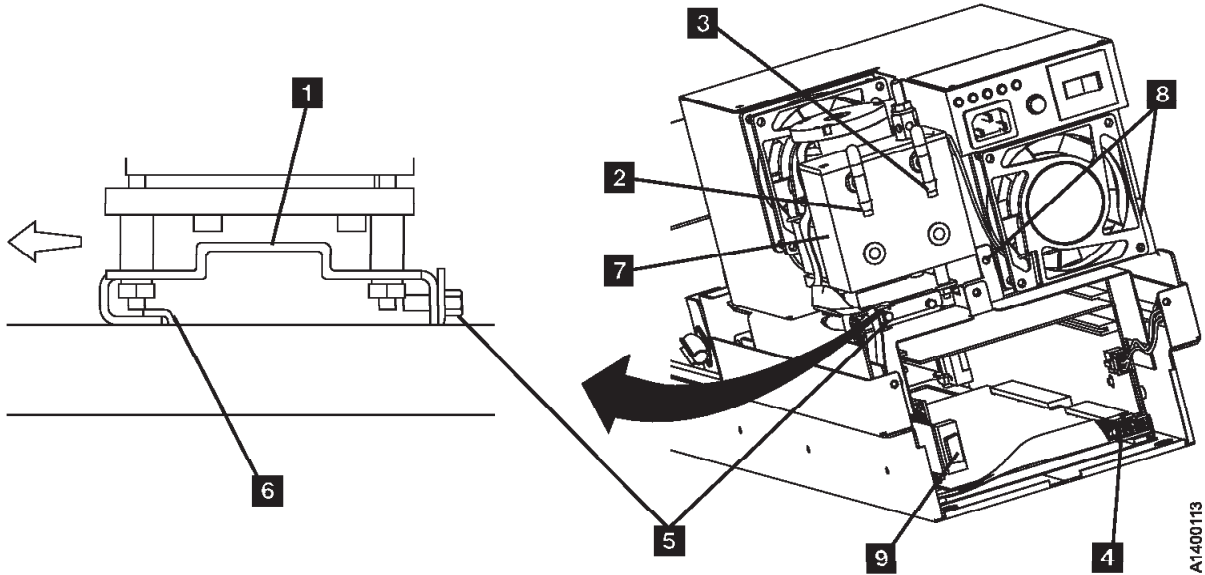

Figure 10-41. Pneumatic Assembly
4. See Figure 10-41 on page 10-58. Label and disconnect the vacuum **3** and pressure **2** hoses from the rear of the pneumatic assembly. The vacuum and pressure hose positions are marked with a letter on top of the assembly; V for vacuum and P for pressure.
- c. Remove the two pneumatic assembly mounting screws. See Figure 10-41 on page 10-58 **5**.
**Note:** Prior to replacement of the power supply **check the part number of the pneumatic assembly** on the side of the pneumatic assembly filter **7** in Figure 10-41 on page 10-58.